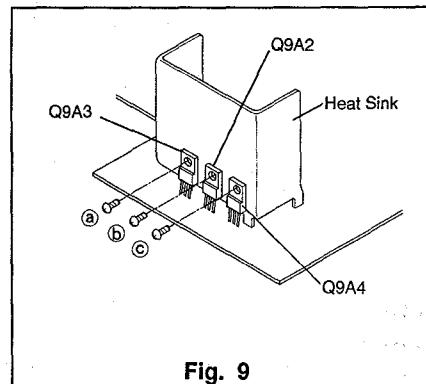

Fig. 9
- ⑥ To service the component side, remove three screws (⑦, ⑧ and ⑨: 669D222O90) retaining the Heat Sink shown in Fig. 9.